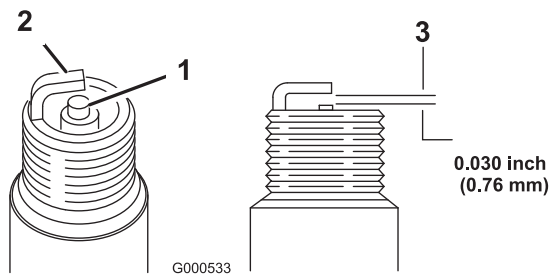

Figure 29
5. Set the gap on the plug to 0.76 mm (0.030 inch) as shown in Figure 29.